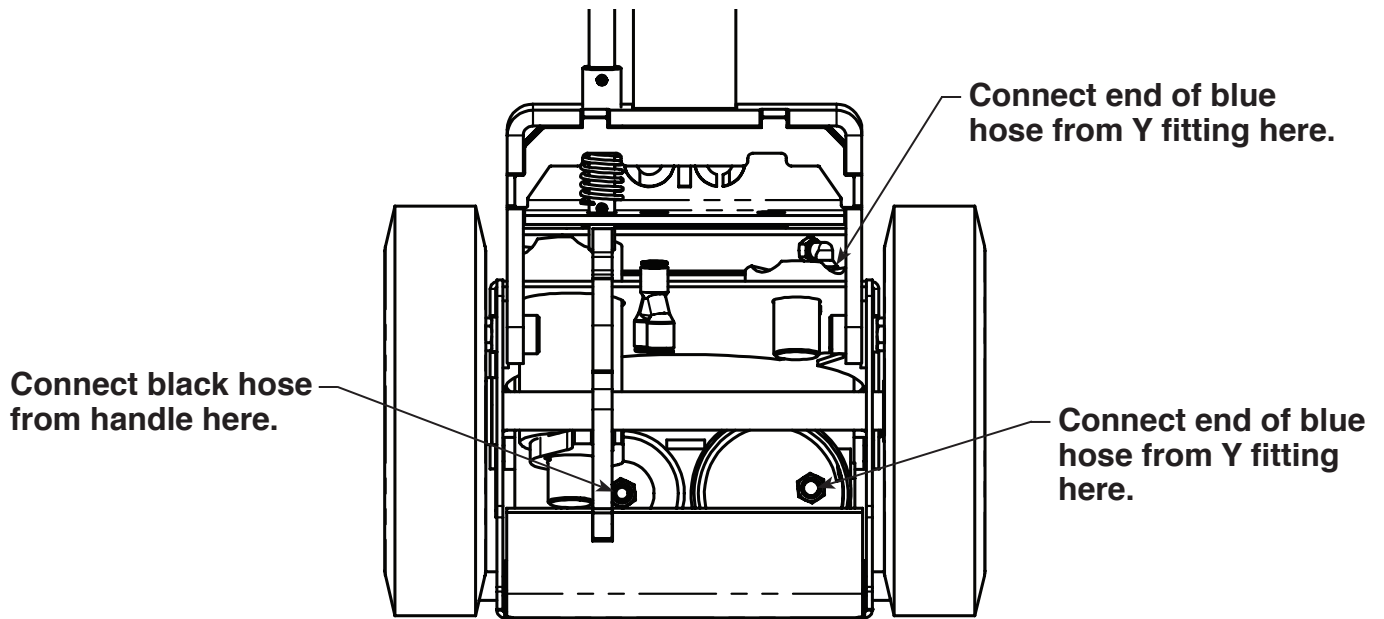

Figure 1
4. Connect the hoses as shown in Figure 1.